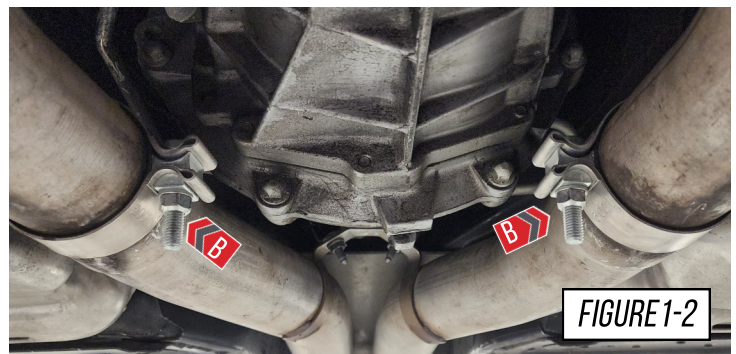

FIGURE1-2
Loosen the OE clamps shown at (B) in **Figure 1-2**.